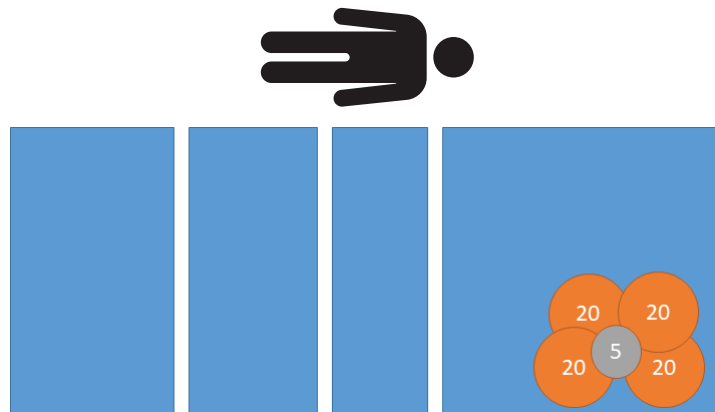

Figure 13 – Eccentricity test - 85 kg head left
1. Using calibrated weights, place 85 kg at the head, left of the product (Figure 13).